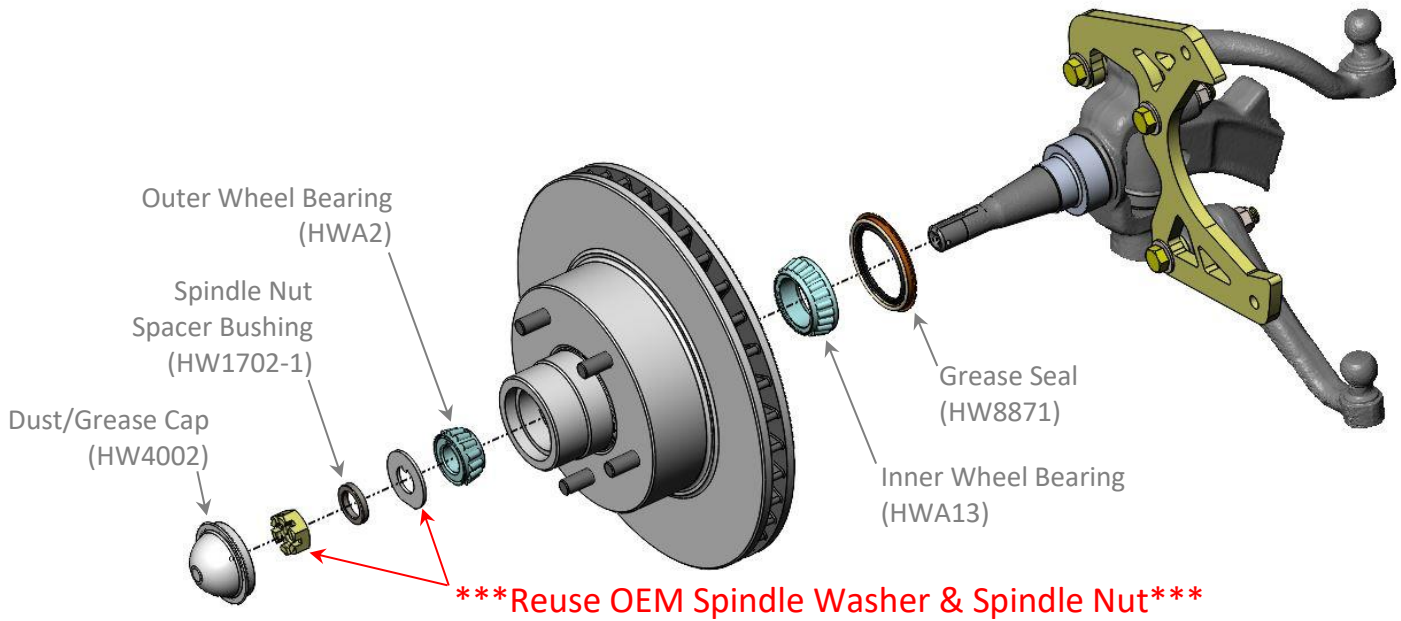
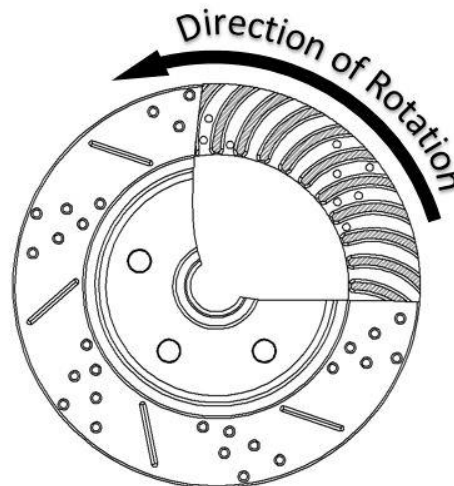

Figure 5a – Component Location (Driver Side Shown)
Figure 5b – Rotor Orientation
- Slide the rotor onto the spindle. The inner wheel bearing and grease seal should be installed at this point. With the rotor fully pushed onto the spindle, install the outer wheel bearing followed by the OEM washer and spindle nut. Due to dimension differences, we provide a Spindle Nut Spacer Bushing to help with aligning the cotter pin hole to the slots in the OEM spindle nut. When tightening the spindle nut, tighten to 5-10 ft/lbs. Loosen the nut and tighten again using the same 5-10 ft/lbs. Do this a couple of times spinning the rotor to fully seat the wheel bearings onto the spindle. Loosen the nut a final time and re-tighten to remove all play. Tighten approximately an additional 1/16th of a turn to give the appropriate pre-load and line up the cotter pin hole. Install the cotter pin to secure the nut followed by the grease cap. Figure 5a below shows the proper location of each component. **IMPORTANT:** If using slotted and drilled rotors, pay close attention to Figure 5b for proper rotor placement on the driver or passenger side.